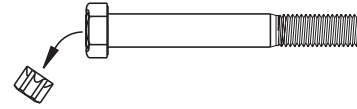

Figure 4: Shear bolt Torx head separation
7. Use an E20 Torx® socket to **tighten** the shear-type bolt until the bolt's Torx head shears off, as shown in Figure 4.